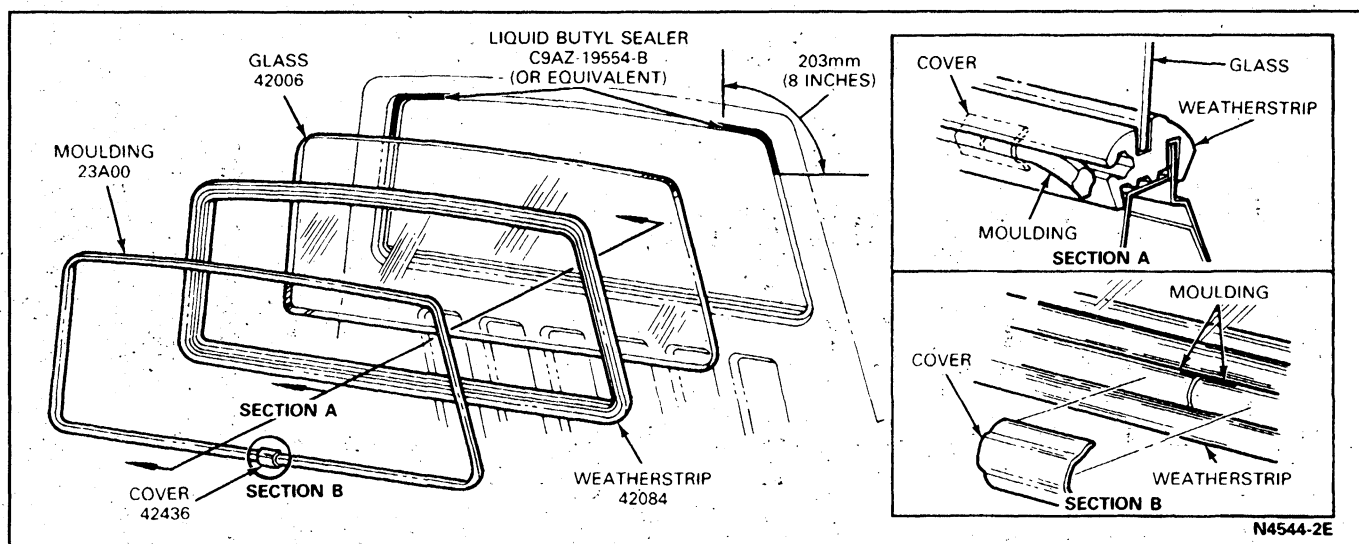

FIG. 1 Stationary Back Window Installation—F-150—F-350 and F-Super Duty
Refer to Fig. 1.
3. Apply Liquid Butyl Sealer C9AZ-19554-B or equivalent to the back window opening as shown in Fig. 1.